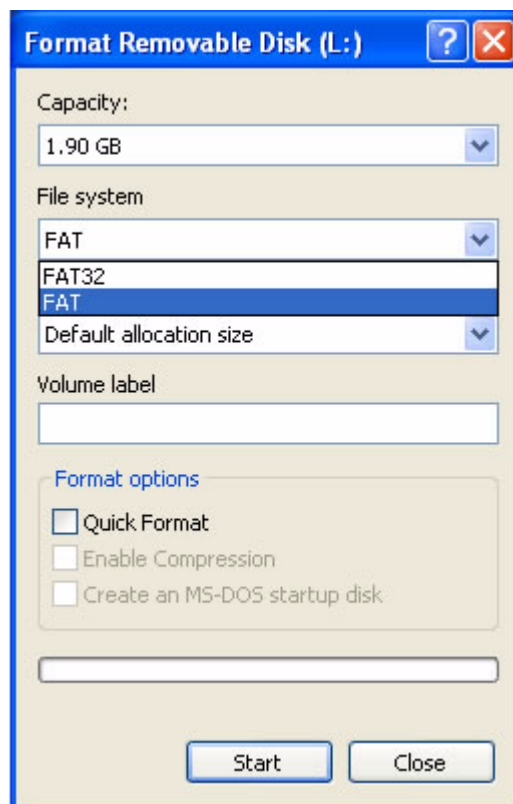

Figure 3-4. Format program
4. After the format menu appears, select FAT from the file system dropdown menu. See Figure 3-4.